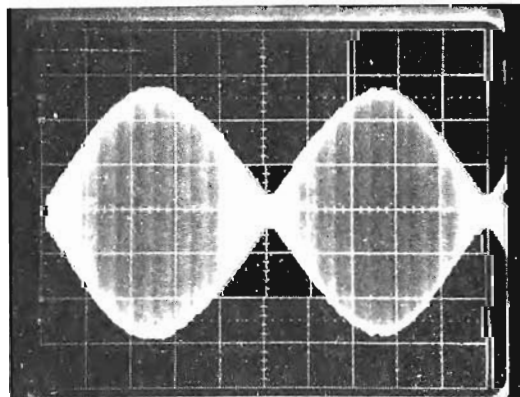

FIGURE 4 HEAD RADIAL ALIGNMENT
- b. A cat's eye pattern should be observed (Ref. Figure 4).